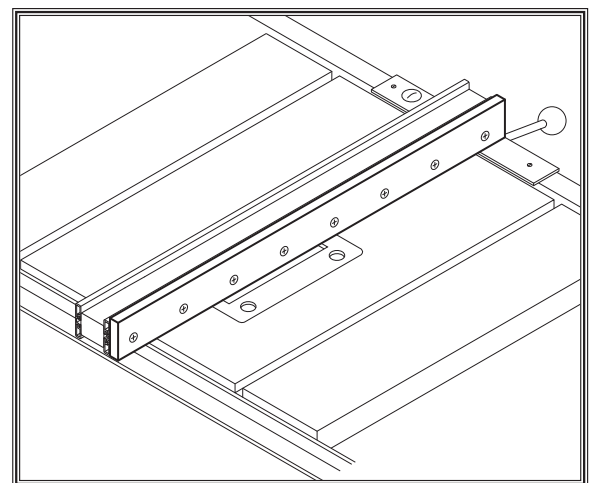

Figure 54. Auxiliary fence.
4. Thread the flat head screws through the auxiliary fence and into the hex nuts in the standard fence, and tighten securely as shown in Figure 54.